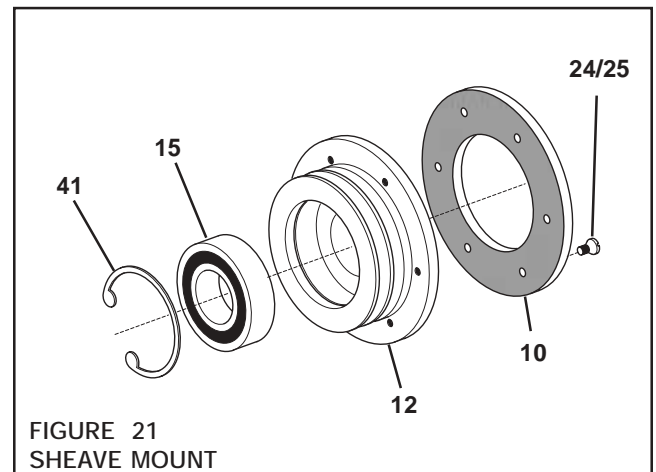

FIGURE 21
1. Remove the Retaining Ring (Item 41) from the Sheave (Item 12) or Pilot Drive Disc (Item 33) (See Figure 21 or 22).
2. Press the old Ball Bearing (Item 15) out of the Sheave (Item 12) or Ball Bearing (Item 34) out of the Pilot Drive Disc (Item 33) (See Figure 21 or 22).
4. Apply an adequate amount of Loctite® 680 to evenly coat the outer race of the new Ball Bearing (Item 15 or 34) (See Figure 21 or 22).
5. Support the Sheave (Item 12) or the Pilot Drive Disc (Item 33) and pressing on the outer race of the new Ball Bearing (Item 15 or 34), press the new Ball Bearing (Item 15 or 34) into the Sheave or Pilot Drive Disc (See Figure 21 or 22).
6. Reinstall the Retaining Ring (Item 41) (See Figure 21 or 22).
7. Remove the old Flat Head Machine Screws (Item 24 or 25) securing the Friction Facing (Item 10) to the Sheave (Item 12) or Pilot Drive Disc (Item 33) (See Figure 21 or 22).
8. Remove the old Friction Facing (Item 10) (See Figure 21 or 22).
9. Install the new Friction Facing (Item 10) and tighten the new Flat Head Machine Screws (Item 24 or 25) to 26 In. Lbs. [2.9 N•m] torque (See Figure 21 or 22).